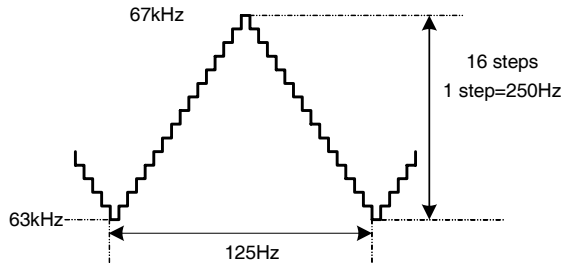

Figure 6. Frequency Modulation
The oscillator frequency is set internally and there is frequency modulation (FM) function to reduce EMI. The average frequency is 65kHz and the modulation frequency is ± 2 kHz. The frequency varies from 63kHz to 67kHz with 16 steps. A frequency step is 250Hz and FM frequency is 125Hz, as shown in Fig. 6.